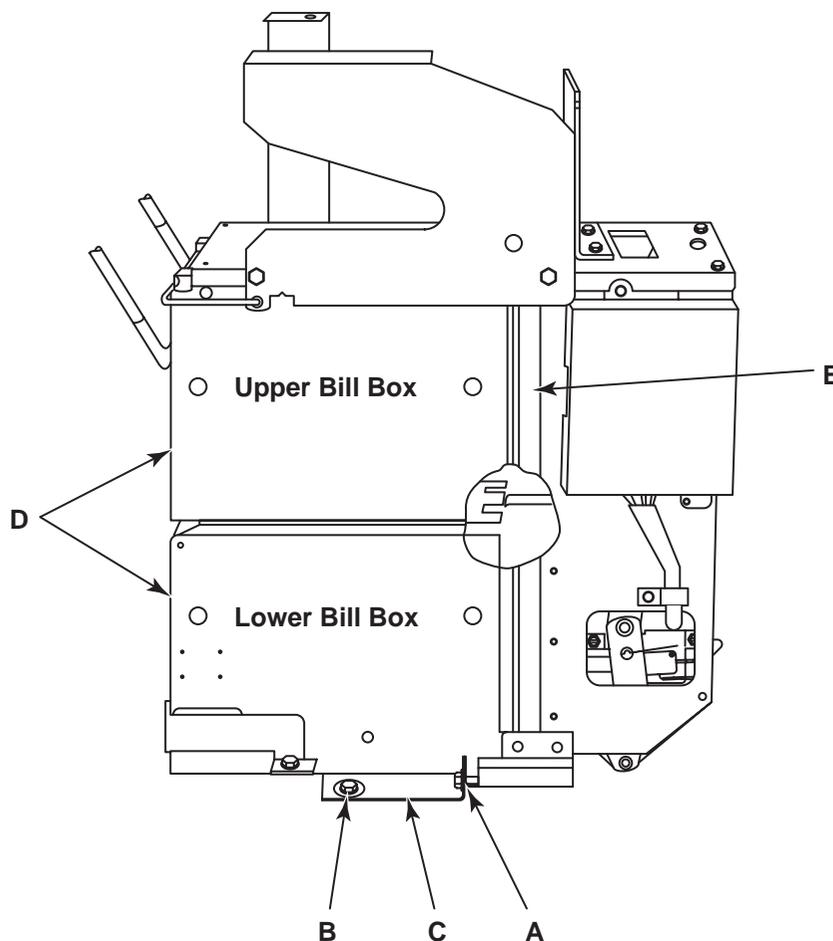

Figure 3-16. Mounting Plate Adjustment
Refer to *Figure 3-16* and adjust the lower bill box stop bracket and mounting plate so that the bottom bill box is aligned with the upper bill box and chute guides in the following manner:
3. Refer to *Figure 3-16* and make sure that the bill boxes are tight against the chute guides (*A*) to get proper stacking.